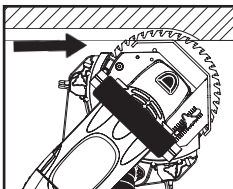
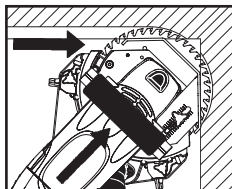

Figure 13
Figure 14
- When undercutting wood, cut towards the corner at 45° "left" angle (see Figure 13) until the depth gauge meets the right wall (see Figure 14). Otherwise, cut on the 45° "right" angle with dust control (see Figure 10).